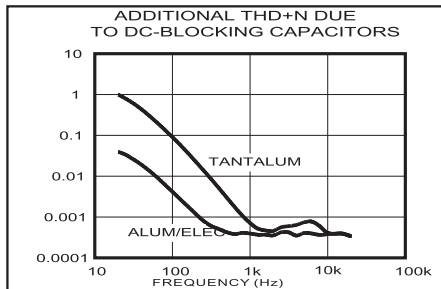

Figure 3. Distortion Contributed by DC-Blocking Capacitors
2) The voltage coefficient of the DC-blocking capacitor contributes distortion to the reproduced audio signal as the capacitance value varies as a function of the voltage change across the capacitor. At low frequencies, the reactance of the capacitor dominates at frequencies below the -3dB point and the voltage coefficient appears as frequency-dependent distortion. Figure 3 shows the THD + N introduced by two different capacitor dielectric types. Note that below 100Hz, THD + N increases rapidly. The combination of low-frequency attenuation and frequency-dependent distortion compromises audio reproduction in portable audio equipment that emphasizes low-frequency effects such as multimedia laptops, as well as MP3, CD, and DVD players. By eliminating the DC-blocking capacitors through DirectDrive technology, these capacitor-related deficiencies are eliminated. The CS4420C features a low-noise charge pump. The 320kHz switching frequency is well beyond the audio range, and thus does not interfere with the audio signals. The switch drivers feature a controlled switching